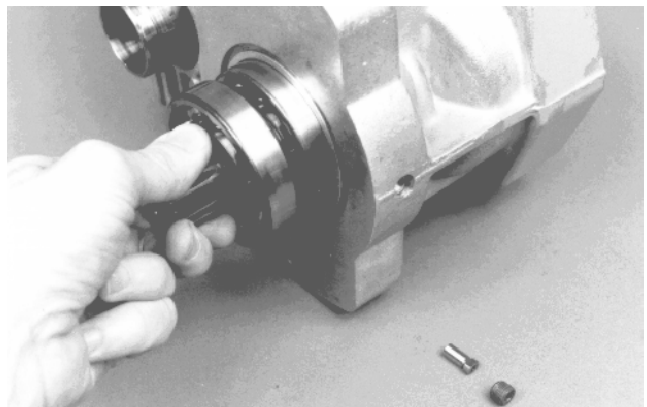

Figure 65
10. Install motor shaft assembly into housing (Fig. 65).